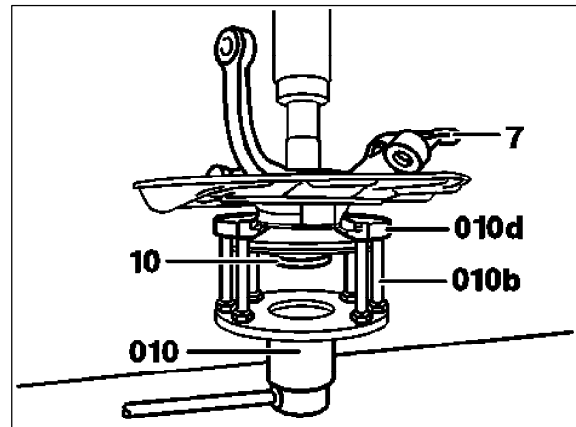

Figure 2
2. Two support plates (010d, Figure 2) are available for:
3. Pull rear hub from the inner bearing race, making sure that support pins (010b, Figure 2) are properly seated in the centering holes of the support plate (010d).
4. In the event the hub cannot be pulled using the Special Tools, remove the rear nut. Press out the hub using a hydraulic press while leaving the removal and installer tool installed. (Hydraulic pressure exceeding 2 tons may occur, Figure 2.)